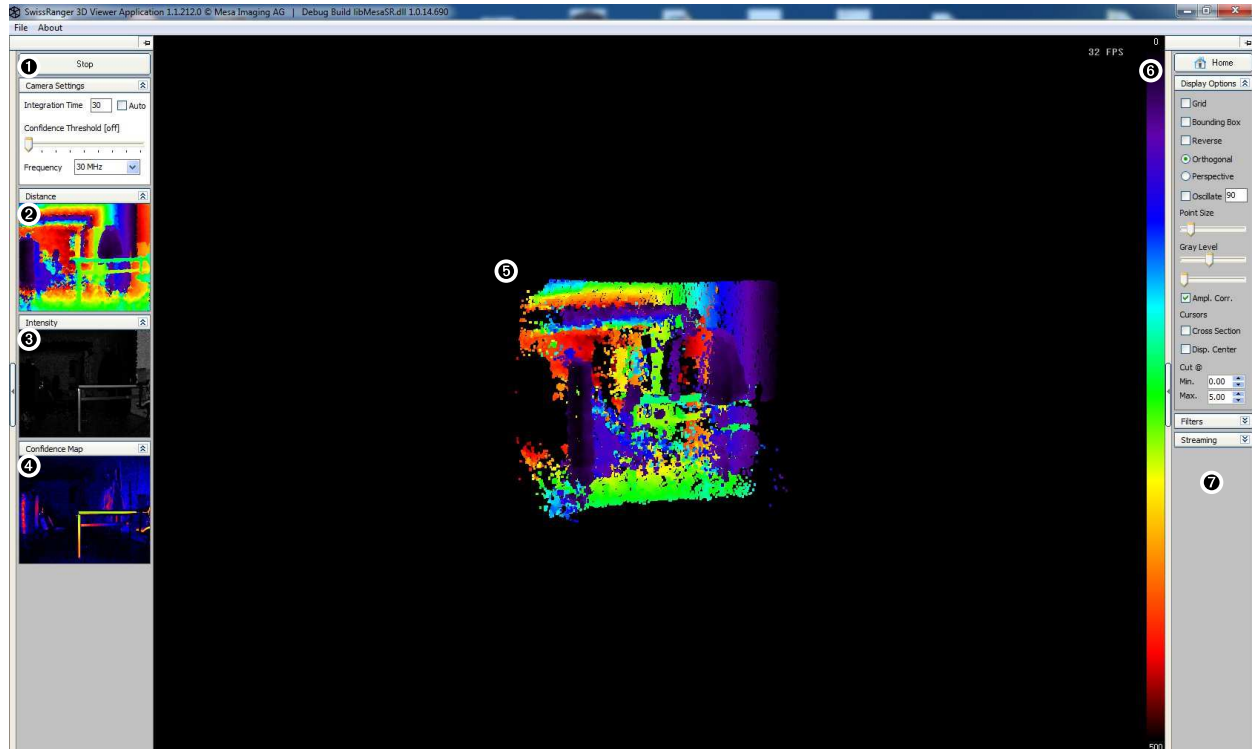

Figure 13.3: The SR_3D_View Interface showing distance, gray scale and confidence map images on the left hand side and 3D projection in the main window.
To connect to a SwissRanger camera, click the Start button: **Start**. In order to enter the opening to select a camera manually dialog hold the **Ctrl** key and press the button **Start**. The button **Start** will change to **Stop** (as can be seen in figure 13.3, ❶).
As shown in figure 13.3, the distance (❷), gray scale (❸) and confidence map (❹) images will appear on the left hand side of the main window. Those images are unadjusted raw pixel arrays, whereas the 3D projection of the central image (❺) has been adjusted by the coordinate transformation function in the driver to compensate for radial distortion in the optics, removing the “pin cushion” effect. Here the full (x, y, z) coordinate vectors are displayed. The coloring of the points can be selected as a color proportional to the z -value of a pixel (see the color bar ❻ that shows the color spectrum from zero to full phase distance) or as amplitude values.